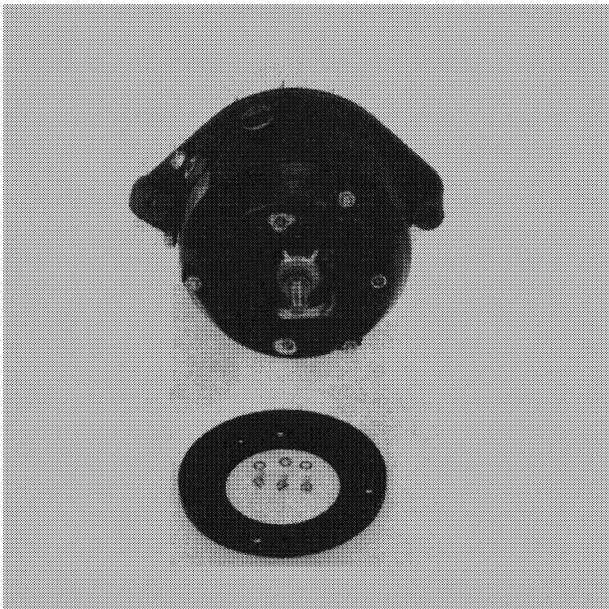

FIGURE 7
4. Remove the three screws from the screen guard and lift off guard as shown in Figure 7.